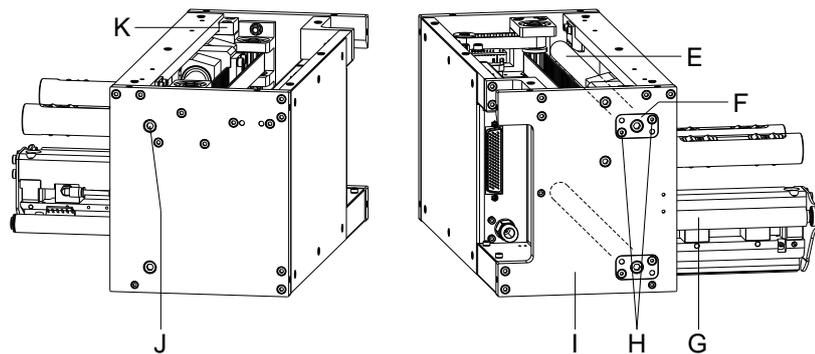

Figure 34
5. Guide the top guiding shaft (E, Figure 34) including the flange (F, Figure 34) through the hole in the side panel (I, Figure 34). Place the slider (K, Figure 34) for the zero control and push it through the linear guidings of the print carriage, hold the print carriage (G, Figure 34) while this procedure.
6. Tighten the screw (J, Figure 34).
7. Tighten the screws (H, Figure 34).
Move the print carriage over the complete travel and ensure a smooth running. If necessary, adjust above the screw (J, Figure 34) the respective guiding shaft.